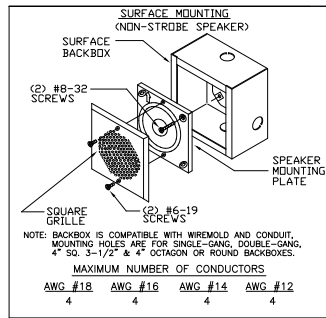

Figure 5
1. This model can be flush mounted to a 4" square by 2-1/8" deep backbox with a 4" square 1-1/2" extension ring or surface mounted to a Surface Backbox (Figure 5). Mounting hardware for each mounting option is supplied.
5. Mount the chime mounting plate to the backbox with the cone protector on. After the chime mounting plate is attached to the backbox, remove the cone protector before installing the grille. Next, attach the grille to the chime mounting plate and attach with (2) screws.